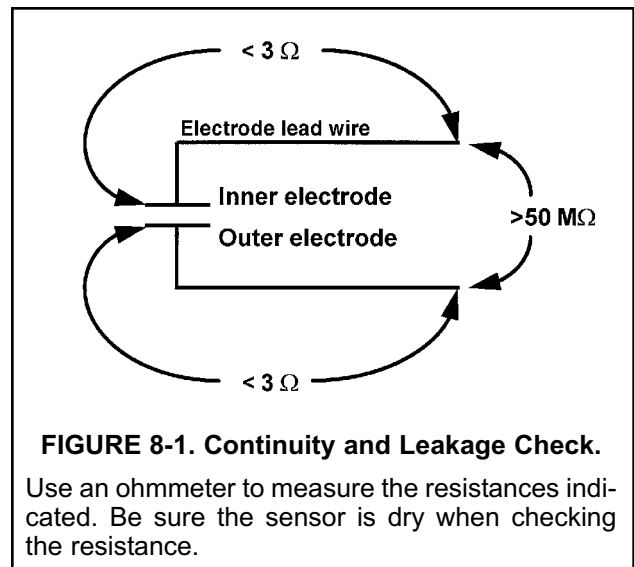

FIGURE 8-1. Continuity and Leakage Check.
- D. Disconnect the sensor from the analyzer and check continuity and leakage resistance as shown in Figure 8-1. If the resistances are not in limits, replace the sensor.